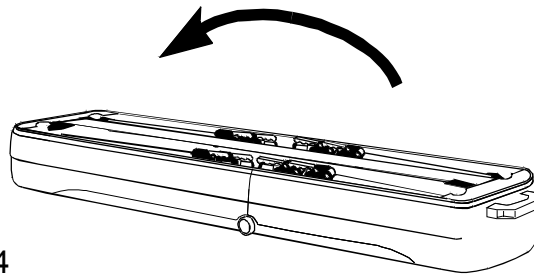

Fig 4
3. Take a firm grip of the handle and swing the top half of the case over until the case is fully open (Fig 4).